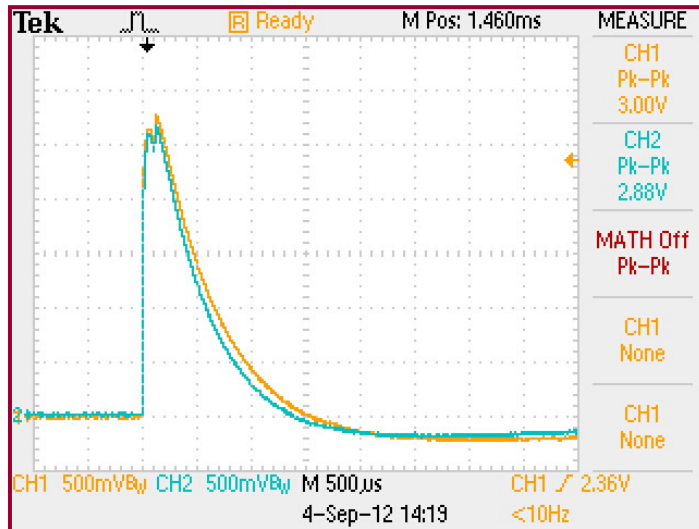

Figure 5.0-5: Typical ΔV for a “good” bag (12V)
- d. Set the "SINGLE SEQ" button and initiate a discharge. For a "good" shielding bag, ($\Delta V < 30V$) the waveform should look similar to that shown in Figure 5.0-5. If the signal levels of CH-1 and/or CH-2 exceed the dynamic range of the scope sensitivity level selected this will cause the input amplifier to saturate, causing a significant measurement error. This condition normally occurs when buried metal layer bags are tested and 50, 100 or 200 mV sensitivity levels are selected to obtain greater voltage differential resolution.